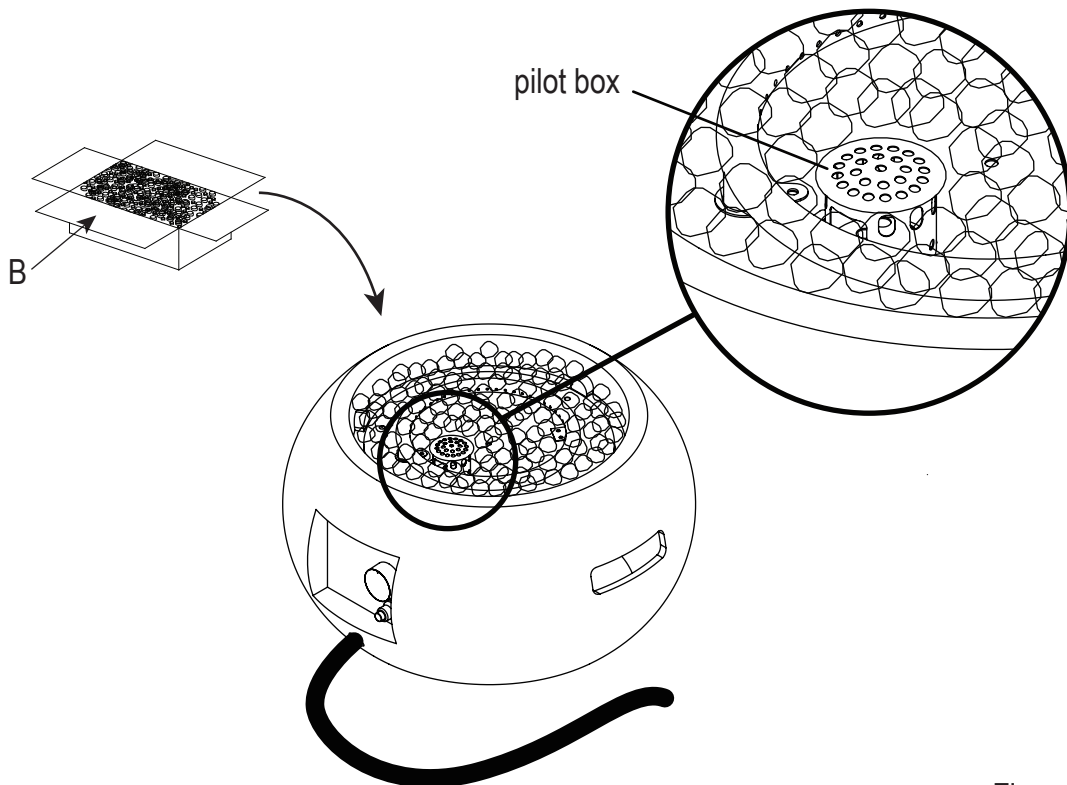

Figure 2
2. Open the box of lava rocks, put the lava rocks (B) into the fire bowl of the fire table (A), (See Figure 2). A gas fire pit requires 8.8 lbs lava rocks.